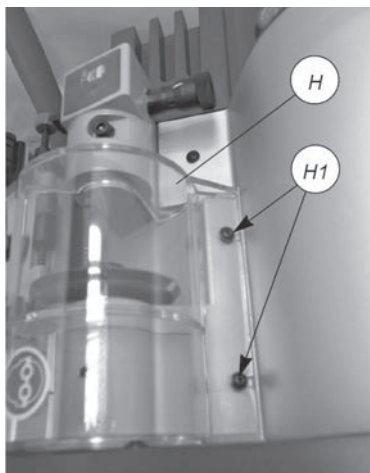

Fig. 24
- 2) Remove the cutter locking screw (H1) and remove the cutter protective shield (H) (Fig. 24).